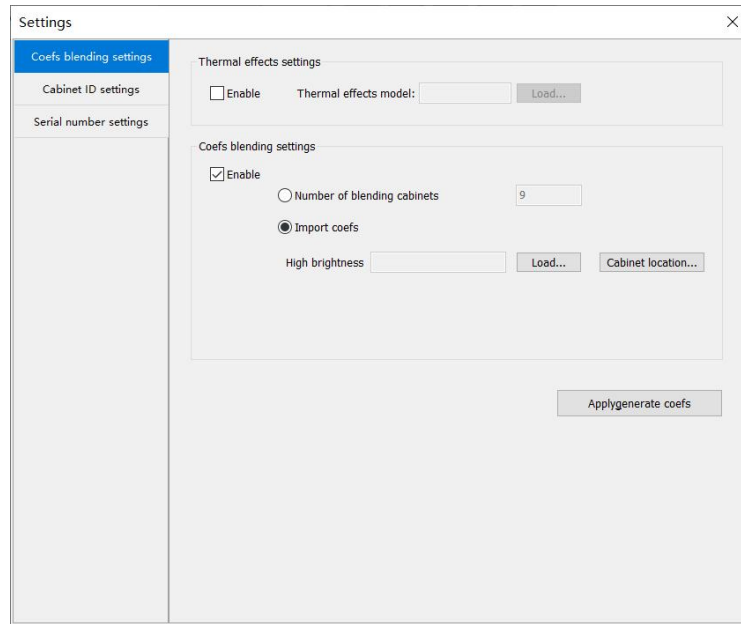

Fig.3-103 Single cabinet calibration settings
- High brightness calibration: Select **Coefs blending settings** to access the tab. See Figure 3-103.